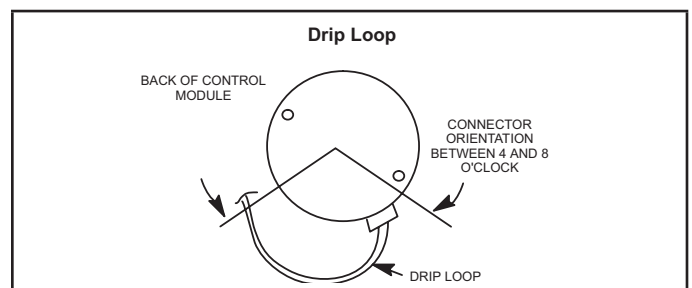

FIGURE 21
- 5 - The electrical connectors of the motor should be facing down to form a drip loop (FIGURE 21+). This will direct moisture away from the motor and its electric connections on the motor.